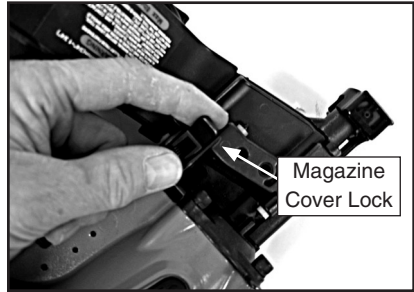

Figure 7. Unlatching the magazine cover lock: Model H7951.
- Unlatch the cover lock, as shown in **Figure 7**, and pull the magazine cover open.